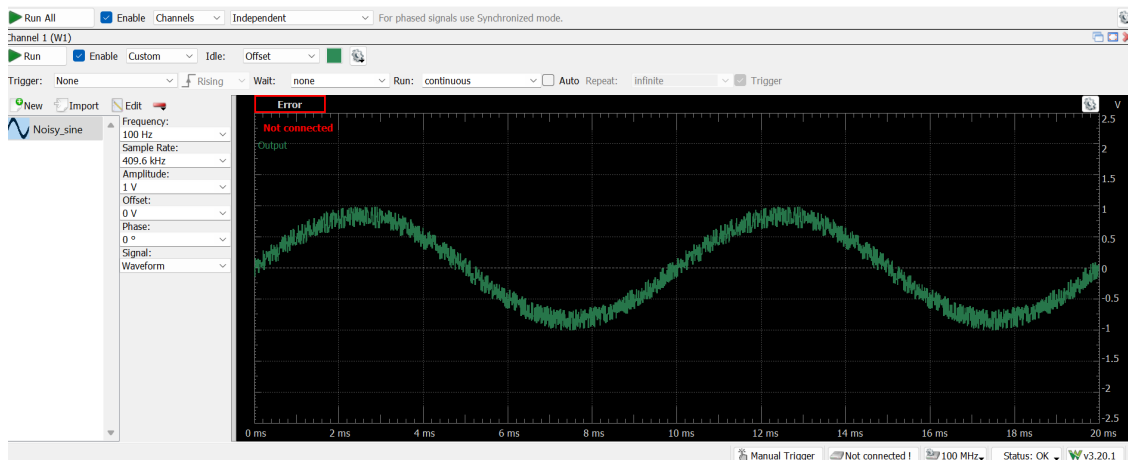
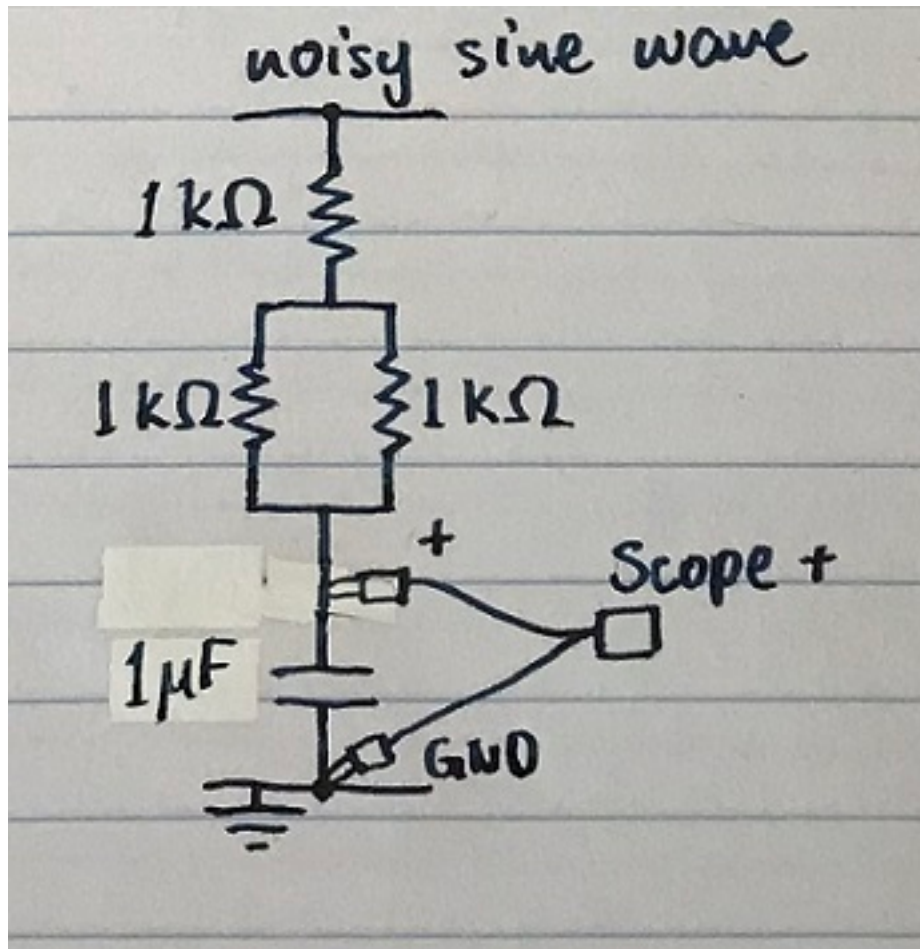
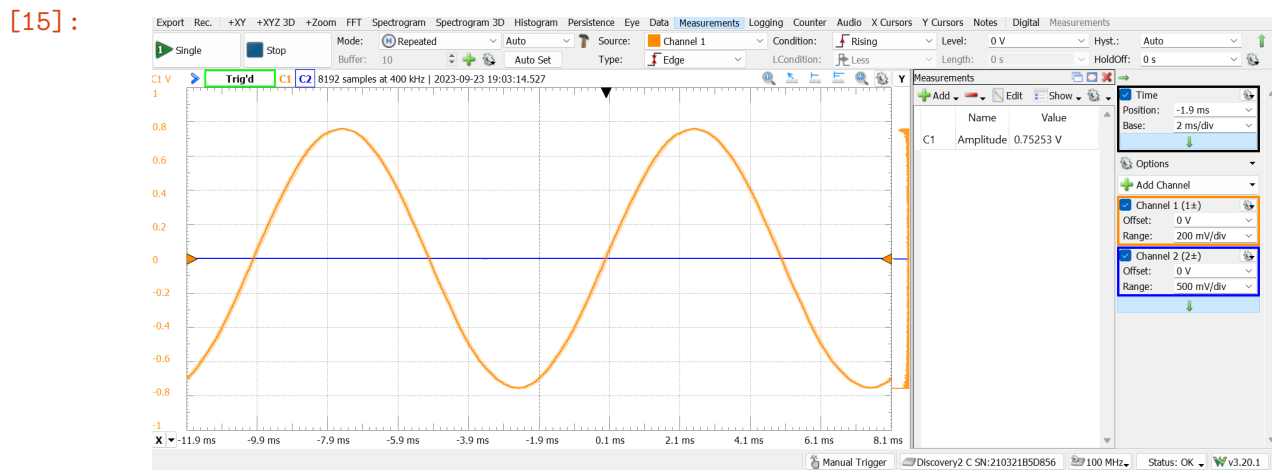
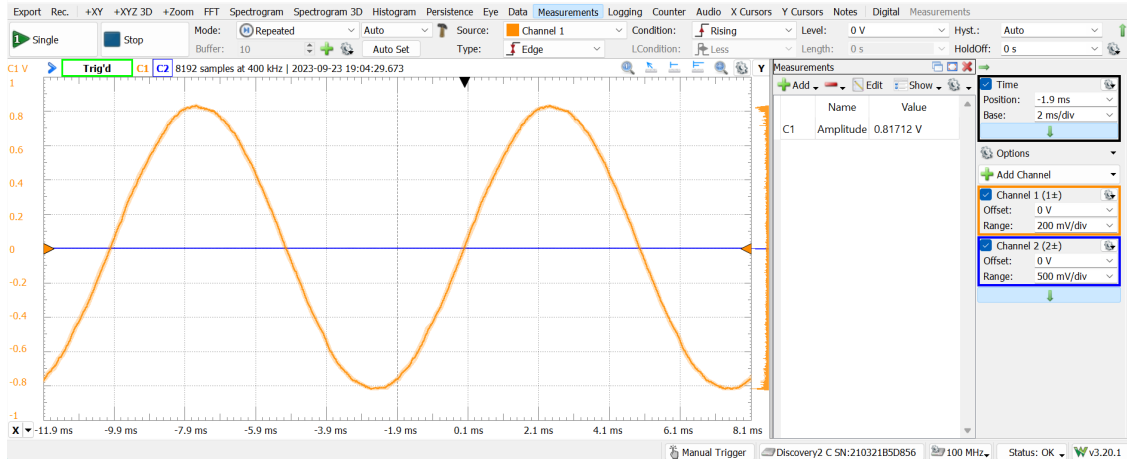

Figure 11: Noisy sine input signal that I cleaned up with low-pass filter
Figure 12: Circuit schematic of low-pass filter for cleaning up noisy sine wave
Figure 14: Cleaned up output sine wave
Figure 15: Slightly less cleaned up output sine wave
Procedure: - I set up an RC circuit on the breadboard following the schematic in Figure 11. The result looked like the setup in Figure 12, but with one rather than two capacitors (I forgot to get a picture of the actual setup of the filter).
Results: - The resulting output sine wave is depicted in Figure 14. It's significantly cleaner than the input signal see in Figure 11. As well, the amplitude has been lowered from the input 1 V to around 0.75 V, which makes sense, as low-pass filters decrease the strength of the signal by filtering out other frequencies.
- To ensure I reasonably optimized the filter, I tried removing the two parallel $1\text{ k}\Omega$ resistors and just keeping one resistor, which outputted the wave seen in Figure 15. This graph is noticeably, albeit only slightly, noisier than the one in Figure 14, so we can understand that although with more time, a better filter could have been constructed for the noisy sine wave, the one already designed works decently well.